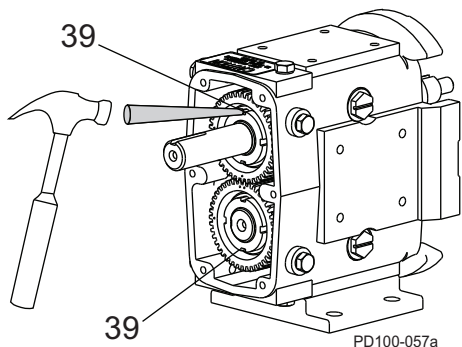

Figure 193 - Straighten Lock Tab on Lock Washers
1. Straighten the tab on the lock washers (Figure 193, item 39).